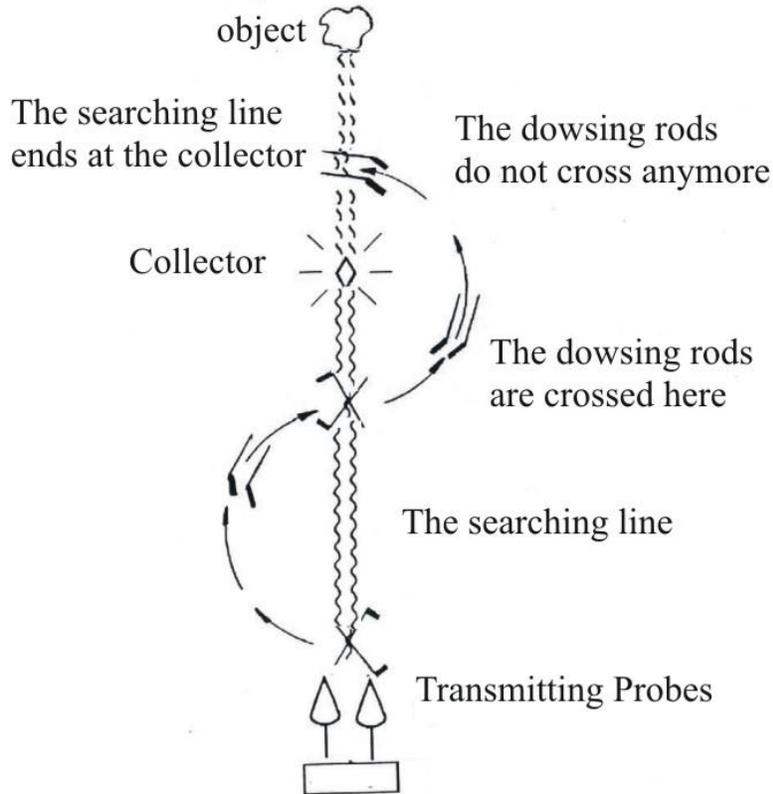
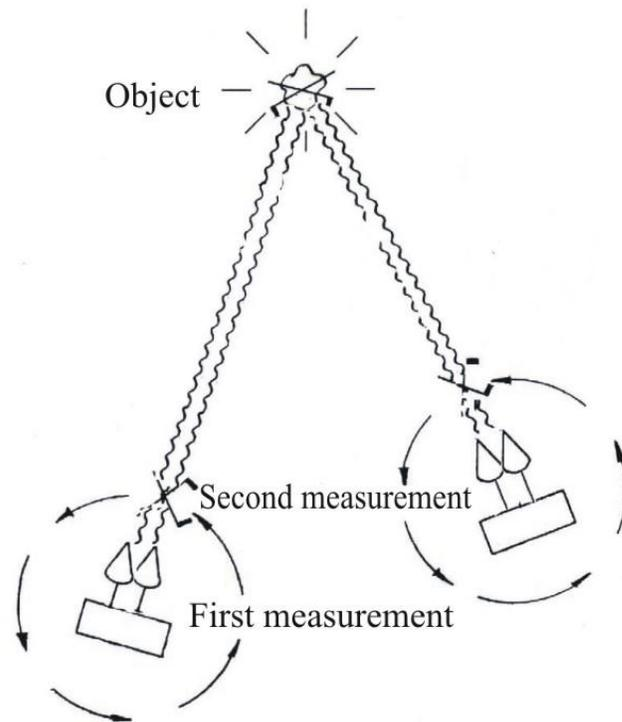
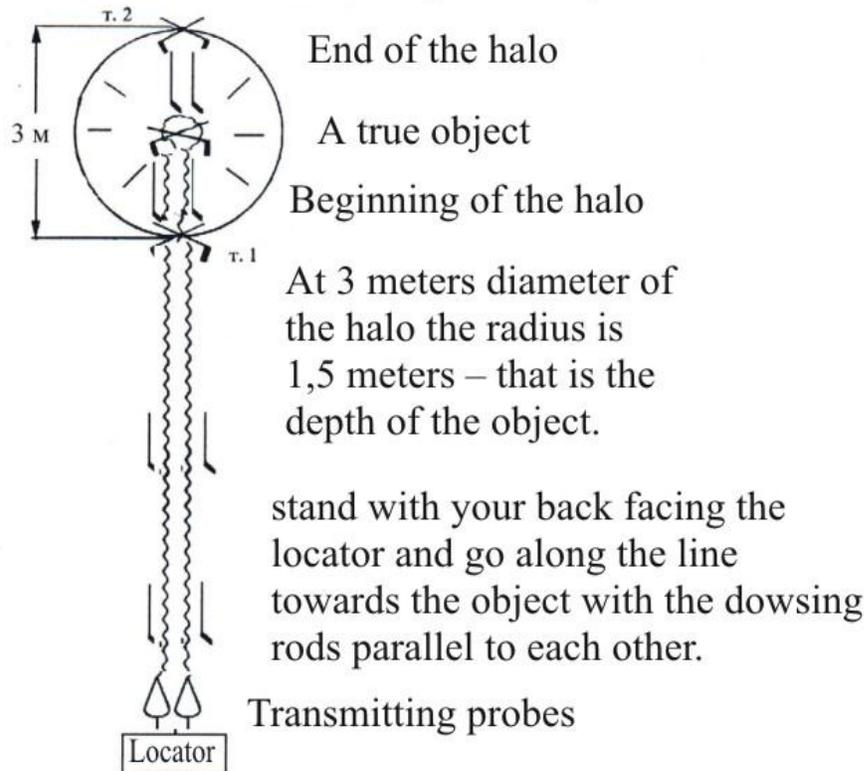

Fig.2 – Eliminating of a certain quantity of metal by a collector
Fig.3 Measurement
Fig.6 – Approximate depth of the object
By this way operator alone can found out how big the object is (Fig.2). It is better if you have one than one Collectors or different weights of the same metal in order to find out more precisely the found object. When you measure the distance and the exact place of the object we can miss the trace line but then you can cross it later you can go back and draw it in your mind (fig.3). When we go on the second trace line and we head towards the first trace line when they cross, the rods will cross too. After we reach that point and we are exactly over the object, please mark the place and keep going and we will see that later there will be no more trace lines or possible ion fields. Now you know the place of the object, the older the object the bigger is the ion field and the bigger is the difference between the electronic signal, which follows the ion field and the real object. Look at fig. 6 to get a better idea.
places from 90 degree and we start new measurement in the same fashion as the first (Fig 3). There should be at least 20 minutes between the two measurements. If you want to search for different metal at that same place just adjust the frequency for example from 8.7 to 8.9kHz. it is not necessary to take out the drills.
- These 15-20 min. for a break to zero the previous frequency and at least 100 sec. for the new frequency. If you have not changed the frequency and only move the 90 degrees you will find another cross point. Then just make a theoretical line from the locator, new point, and the old point, you will see the object location (Fig. 3). This is not all. Make some more measurements at that same place to find out the depth and the size of the object. Look at Fig. 6. There you will see the cross point and the second crossing over the object and third point in place 2. The way the object is checked is written and shown there (Fig. 6).